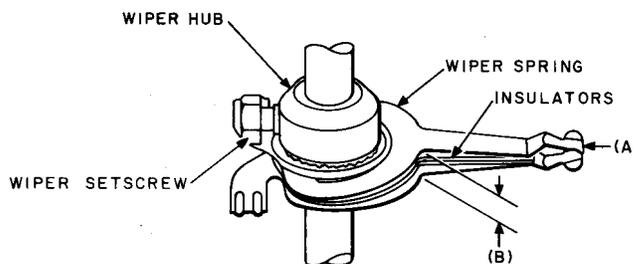

Fig. 1—Bank Wiper
2.06 Wiper Spring Forming: Fig. 1(B)
- (a) **Single-Conductor Wipers** (197-Type Switches Only): Fig. 1(A)
- (1) The springs of all single-conductor wipers shall touch at their tip ends.
- (b) **Two-Conductor Wipers:** Fig. 1(A)—The separation between the tip ends of the springs of all 2-conductor wipers when not contacting the banks shall be